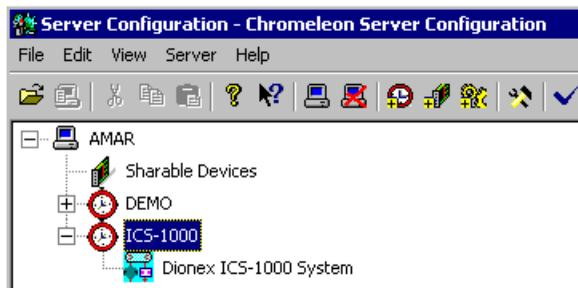

Figure 14. Example: ICS-1500 Timebase
2. Select the timebase that was created for the ICS-1500 (see Figure 14); then, click the **Add device** icon  on the toolbar (or select **Edit>Add Device**).